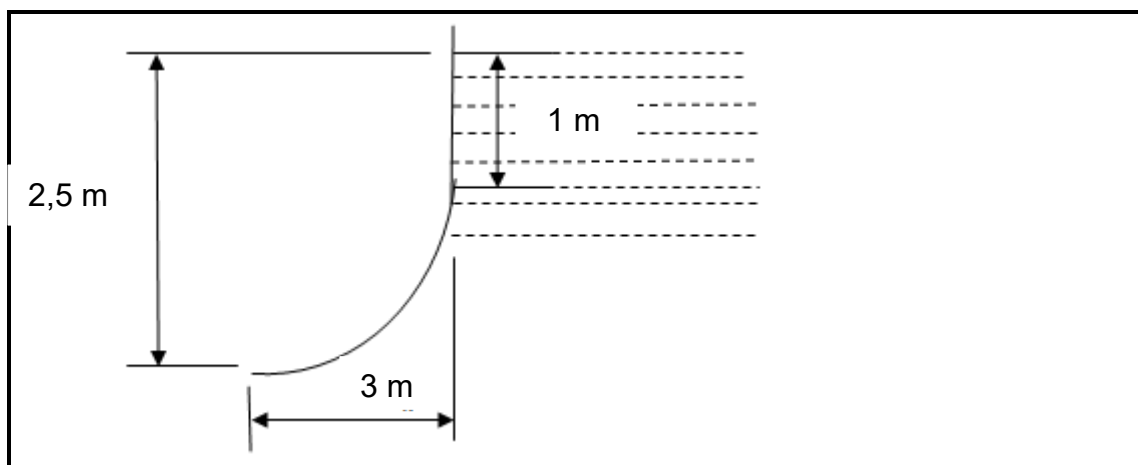

FIGURE 2
- 3.1 A half-section of a ship as shown in FIGURE 2, the side is vertical to a depth of 1 m below the waterline and then curves to the centre line in the form of a parabolic arc, the axis of the parabola being a horizontal line of 1 m below the waterline.